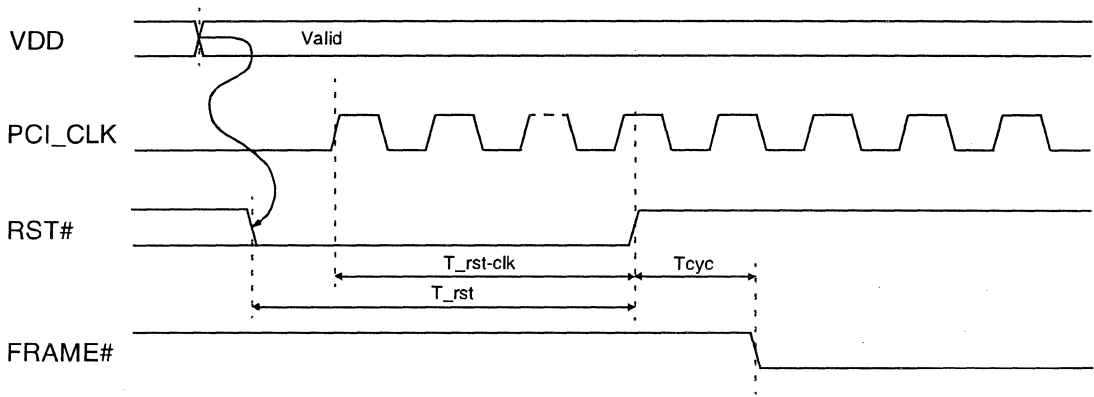

Figure 7-10. Reset Timing
- Power Up and Reset Timing, see *Figure 7-10*